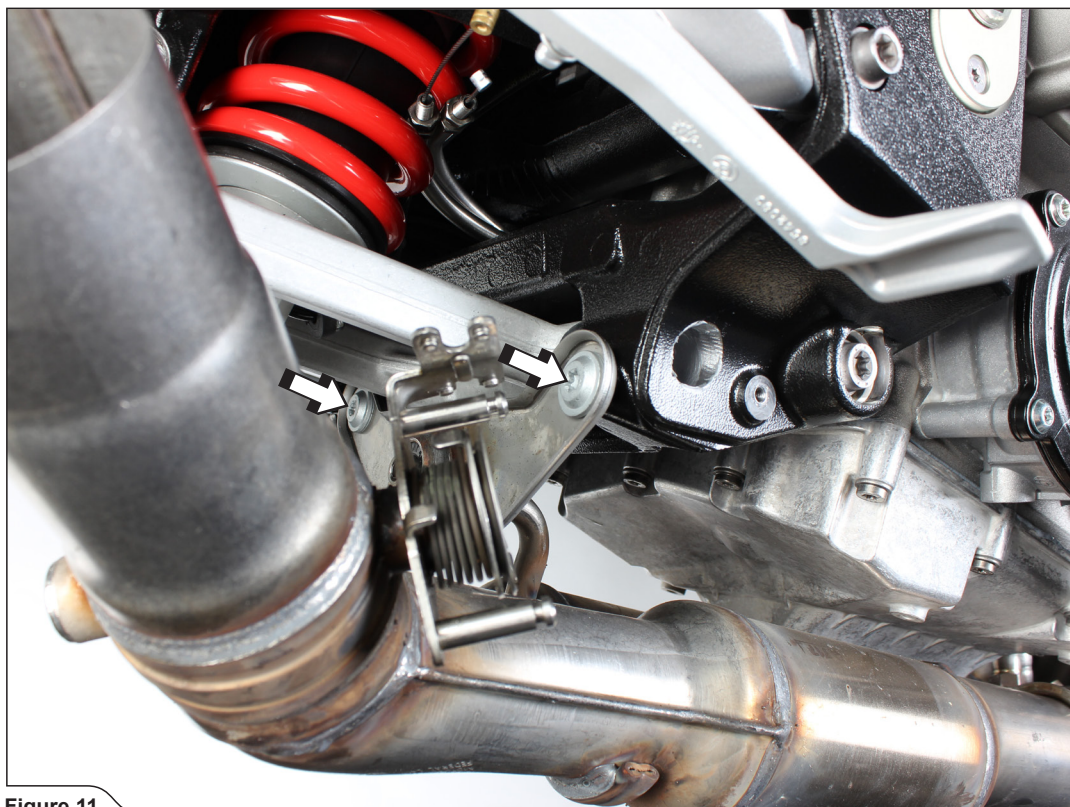

Figure 11
9. Unscrew the market bolts and carefully remove the stock exhaust off the motorcycle (Figure 11, 12).